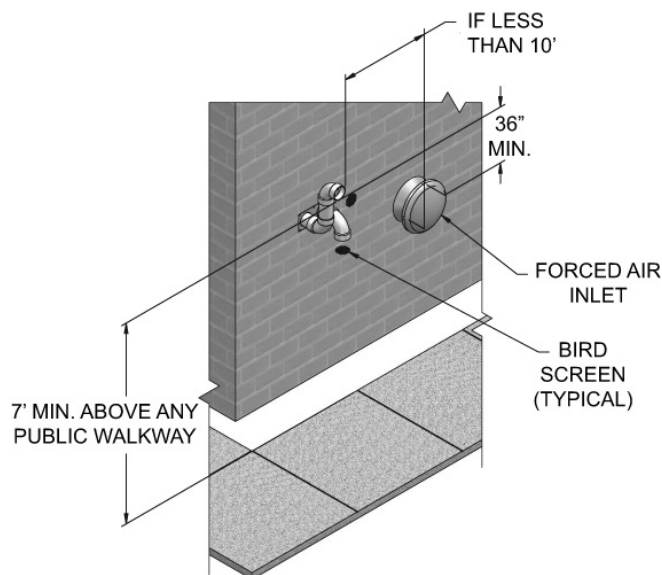

Figure 29. Alternate Clearance to Forced Air Inlets w/ Field Supplied Fittings
2. For Polypropylene Only: Install the vent and air intake sidewall adapters from Table 13 on Page 22 into the vent plate. Slide the sidewall retaining bracket down the sidewall adapters flush to the vent plate (Figure 29).